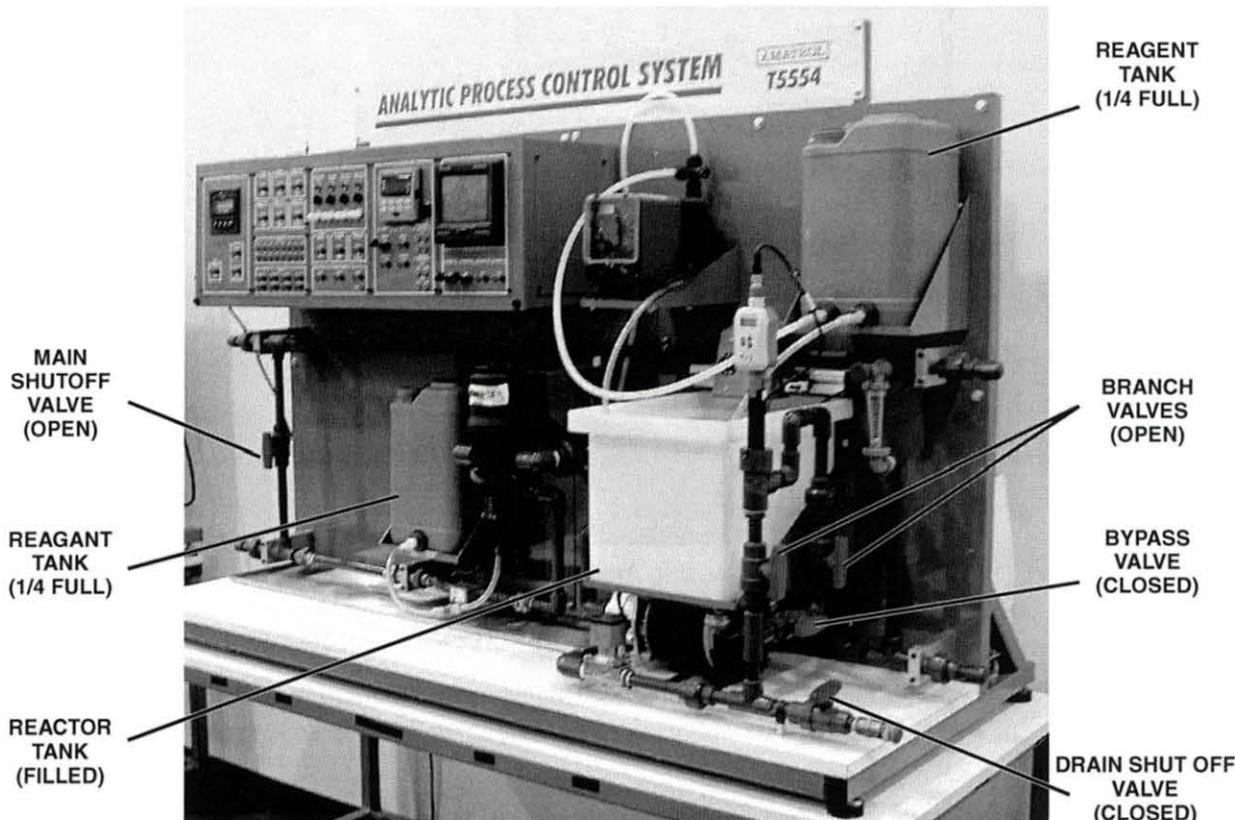

Figure 58. T5554 Setup
- 2. Perform the following substeps to make sure the T5554 Analytical Process Control System is set up as shown in figure 58.